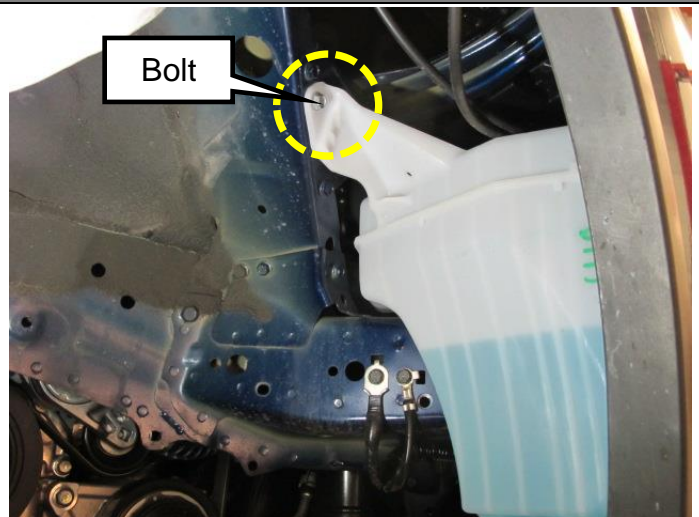

Figure 15
14. Install the upper washer tank bolt (Figure 15).